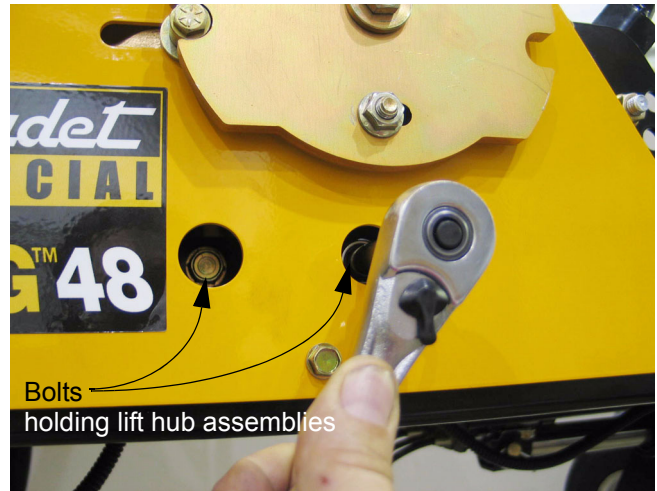

Figure 14.12
- 14.12. The bolts that hold the lift hub assemblies to the control housing are accessible through openings in the sides of the housing. See Figure 14.12.